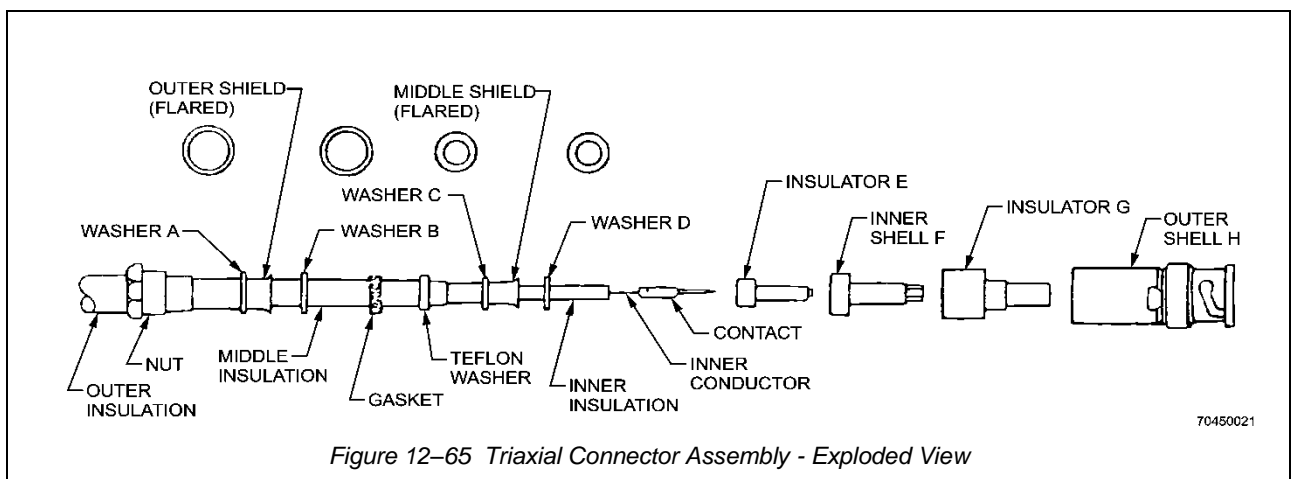

Figure 12-65 Triaxial Connector Assembly - Exploded View
53. When assembling triaxial cable connectors to wire or cable, refer to Figure 12-65 through to Figure 12-68.